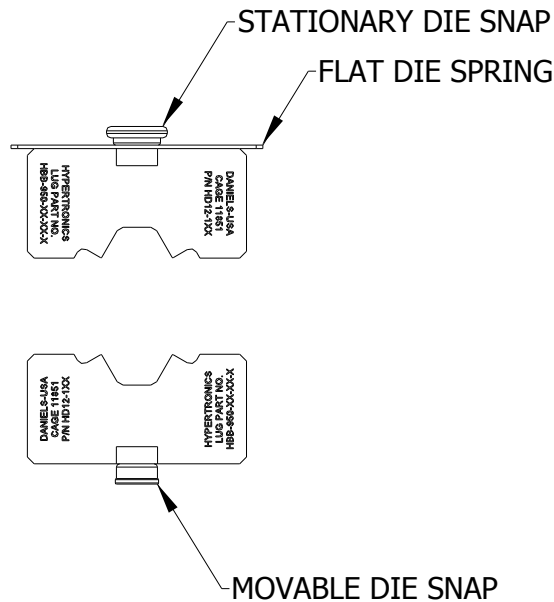

Figure 2
2. Place the movable die half between the die rails. Carefully lower the die and mate the die snap retainer to the snap retainer located in tool's ram. See Figure 2
3. Place the stationary die half between the die rails and lower it so the flat die spring rests on top of the die rail ends. See Figure 2